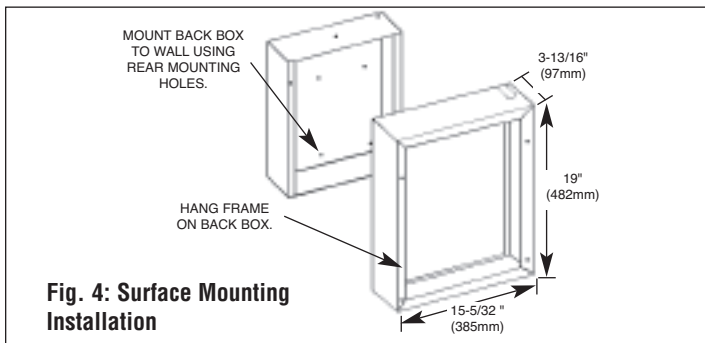

Fig. 4: Surface Mounting Installation
Installation of Back Box with Optional Surface-Mounting Frame WHSM (See Figure 4)
2. Remove thermostat knob (if provided) and remove front cover (grille) as follows: (See figure 4)